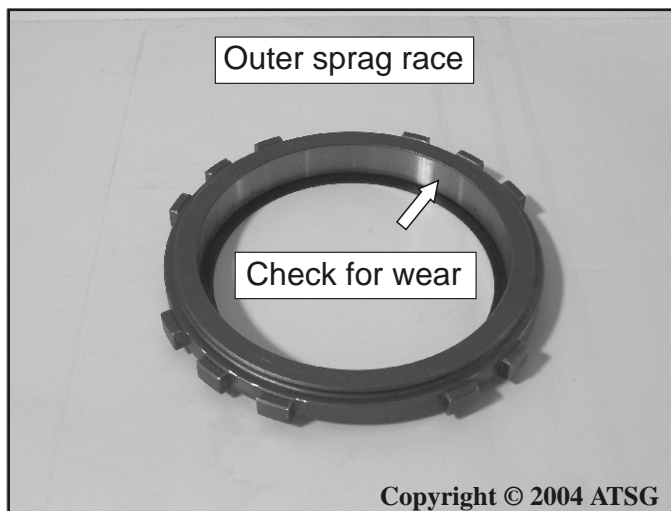

Figure 152
- 98. Inspect the area where the sprag rides, in the outer race, for wear or scoring. Replace as necessary. See Figure 152.